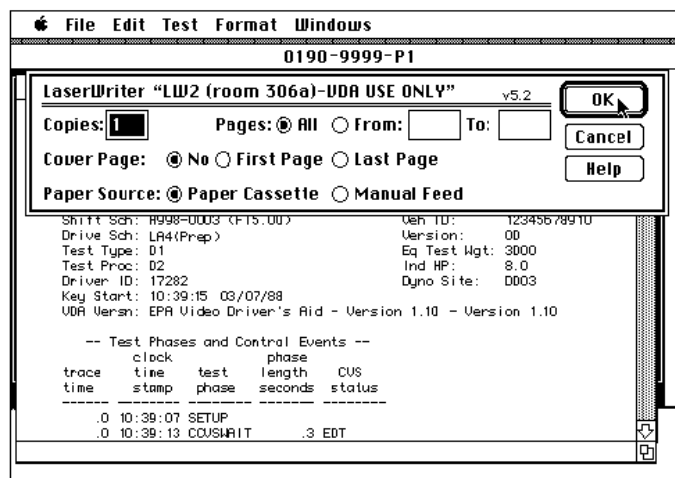

Figure 5
- 9.0 The LaserWriter print specification dialog box will appear, position the mouse pointer on “OK” and click on it. See Figure 5.